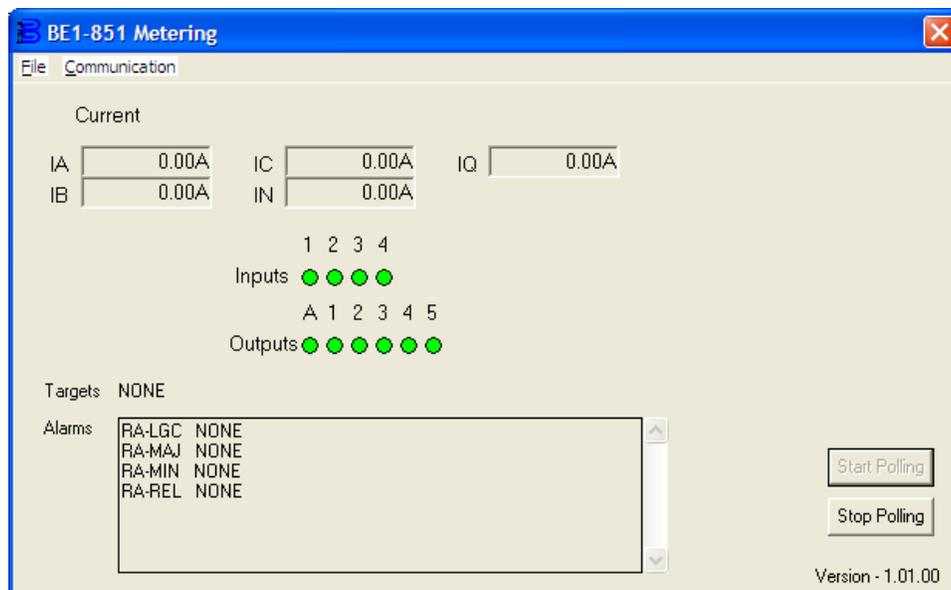

Figure 14-29. Metering from Reports Pull-down Menu
To observe the system metering, pull down the *Reports* menu as shown in Figure 14-29 and select *Metering*. When the *Metering* dialog box opens, click on the *Start Polling* button. If BESTCOMS is not configured to the relay communication settings, you will receive a *Communications Error*. The *Metering* dialog box has two pull-down menus: *File* and *Communication*. To configure communication with the relay, pull down the *Communication* menu and select *Configure*. Choose the Communication port and baud rate, as required. If you have communication with the relay, click on the *Start Polling* button. Metering values are displayed in the various screen windows. If you select *Configure* with polling in progress, you will get the *Polling Active* dialog box. You must stop polling before you can change configuration. To stop polling, click on the *Stop Polling* button. To exit, pull down the *File* menu and select *Exit*. You may also use the Windows techniques and click on the close icon (X) in the upper right-hand corner of the *Metering* dialog box.